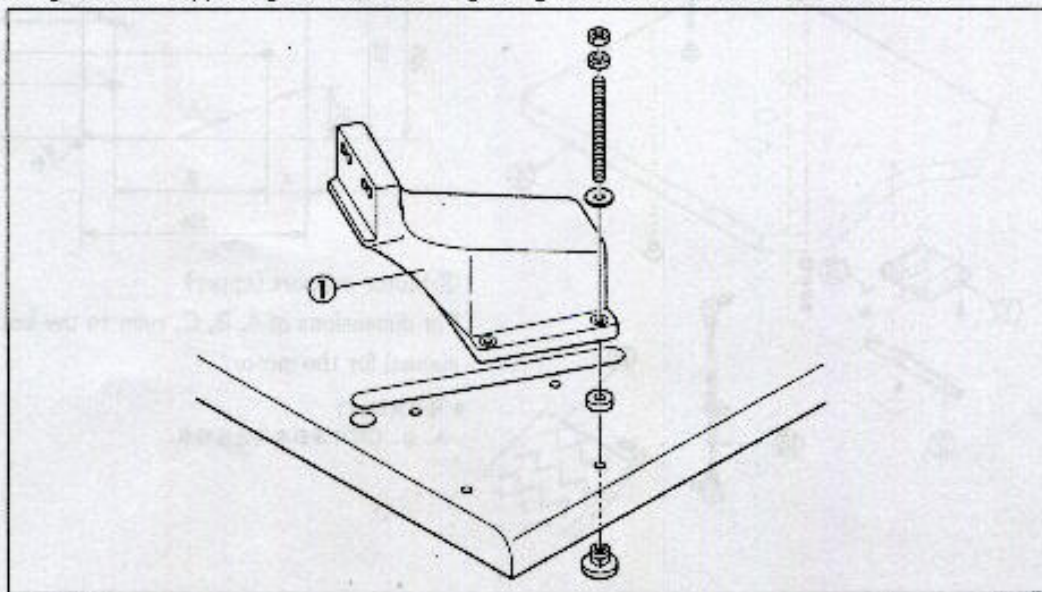

Fig. 5 图5
Set the sewing machine supporting block ①, referring to Fig. 5. 安装缝纫机支架块①, 请参考图5.